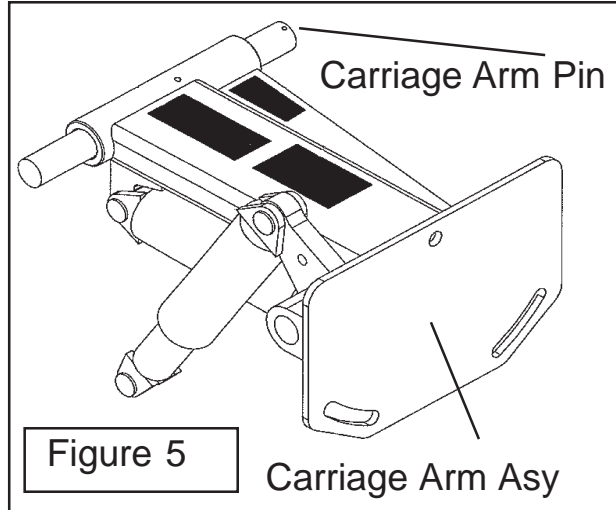

Figure 5
7. Cutter Head Assembly. The Cutter head Assembly is shipped completely assembled with the Skid Shoe, Actuator Pre-Assembly, Carriage Arm, Hydraulic Cylinders, Hydraulic Motor, Drive Assembly, Motor Cover and Cutter Bar Assembly attached (See Figure 4). To mount this the carriage Arm (See Figure 5) which has the Carriage Arm Mounting pin installed in it when shipped will have to have the pin removed (See Figure 4 pin is removed).
8. Install Cutter Bar Head Assembly Using an over head hoist lift and slide the cutter bar assembly into place until the carriage arm is in alignment with the sub-frame (See Figure 1) mounting holes. Insert the carriage arm mounting pin (See Figure 5, 6 & 7) and the two retaining bolts and nuts that were in the retaining pin when it was removed from the carriage arm.